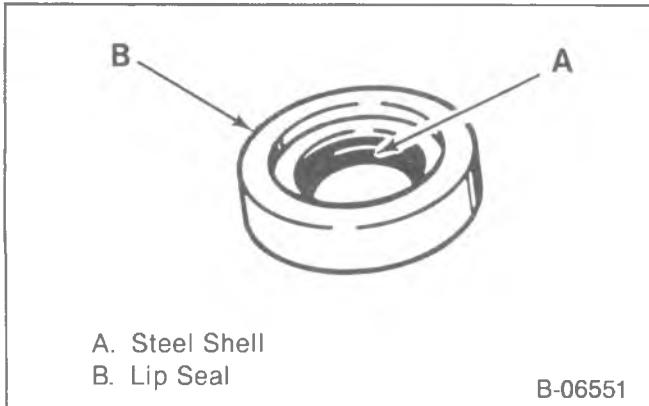

Figure 21—Compressor Shaft Seal Details
Replacement of the shaft seal assembly or the pressure relief valve will require the discharge of the vehicle's refrigerating system (figure 21). Other than clutch repair procedures, the same holds true for any disassembly of the compressor. To discharge the refrigerant, refer to the vehicle service manual.
4. Shaft seal retainer ring using J-5403 (figure 21).
- Shaft (38) and inside the compressor neck area.
5. Clutch plate and hub assembly (22).